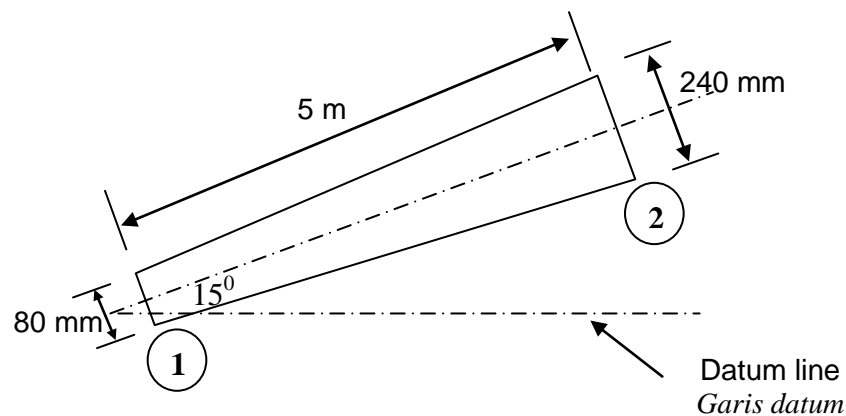

Figure 1: The inclined pipe
1. [a] A 5 m long pipe is inclined at an angle of 15° with the horizontal. The smaller section of the pipe, which is at a lower level is of 80 mm diameter and the larger section of the pipe is of 240 mm diameter as shown in Figure 1. Determine the difference of pressures between the two section in N/m^2 , if the pipe is uniformly tapering and the velocity of water at the smaller section is 1 m/s.